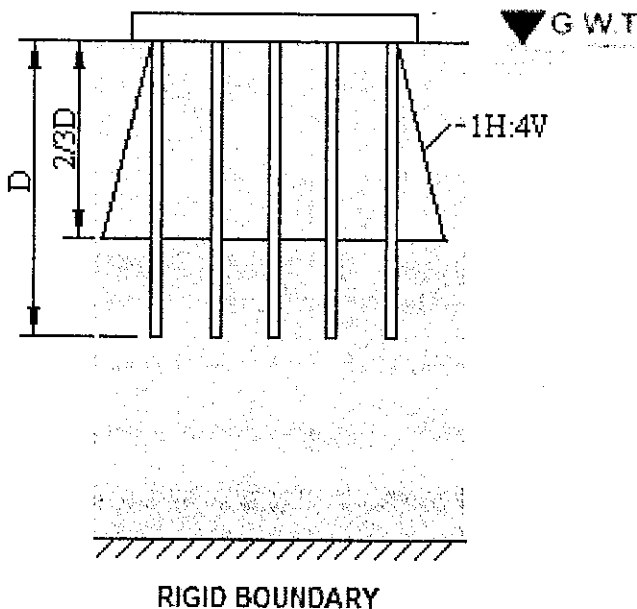

Figure Q6
A cross section of a piled raft foundation constructed in a clay layer is shown in Figure Q6. 50 piles (5 x 10) of 1.00 m diameter are located in a rectangular grid having a 5.00 m centre to centre distance in two perpendicular directions. The safe carrying capacity of an individual pile is 1000 kN and the group efficiency is 0.80. 18.0 m (D) deep piles are constructed in a 30.0 m thick clay layer having a rigid boundary at the bottom as shown.
(Hint: The settlement of a pile group in clay is calculated on the assumption that the group acts as a fictitious buried raft foundation located at a depth of $2/3$ of the length of piles as shown in Figure Q6. The dimensions of the fictitious raft are based on a stress distribution of 1H: 4V. Further, this contact stress of the fictitious raft is dispersed 1H: 2V. Use only a single clay layer to simplify your settlement calculation.)